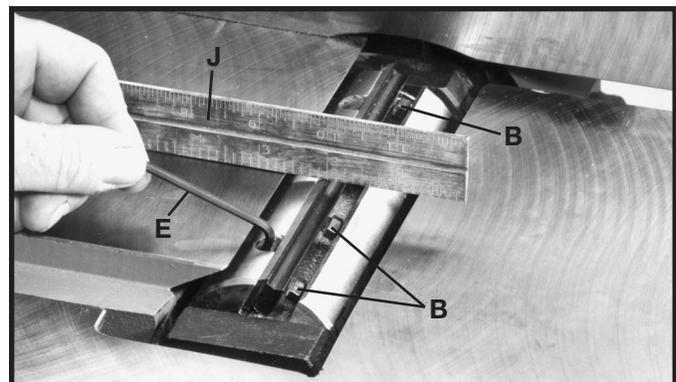

Fig. 60
12. Lower the infeed table and place a straight edge (J) Fig. 60, on the outfeed table extending over the cutterhead as shown.
13. Rotate the cutterhead by hand until the knife is at its highest point at each end of the cutterhead. To raise the knife, use wrench (E) Fig. 60, and turn raising screw clockwise until the knife just touches the straight edge (J) on each end and center of the cutterhead when the knife is at its highest point. When you are certain the knife is adjusted properly, tighten the four locking screws (B) by turning them counterclockwise.